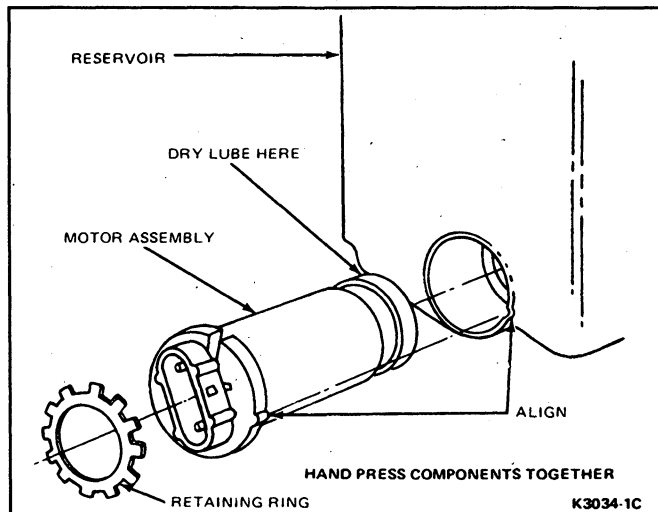

FIG. 2 Windshield Washer Motor Replacement
2. Using a small-bladed screwdriver, pry out retaining ring (Fig. 2).
4. Before installing the assembly, lubricate the outside diameter of the seal (Fig. 2) with a dry lubricant such as powdered graphite. This will prevent the seal from sticking to the wall of the reservoir motor cavity and make assembly easier.
5. Align small projection on the motor end cap with the slot in the reservoir (Fig. 2) and assemble so that the seal seats against the bottom of the motor cavity.